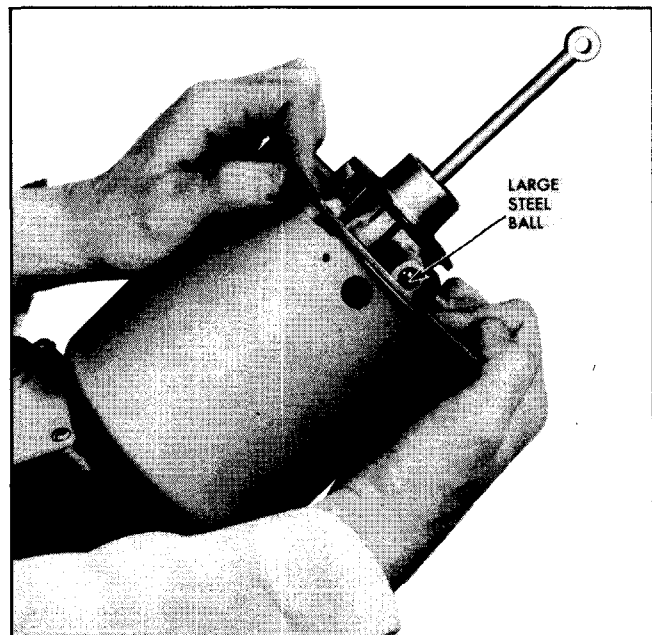

Fig. 5-70 Positioning Power Piston Assembly
5. Place power piston and assembled parts on top of coil spring so that the boss plugged with the largest ball will enter housing below the exhaust tube hole in housing by approximately $\frac{1}{4}$ ". Press power piston assembly into housing (Fig. 5-70).